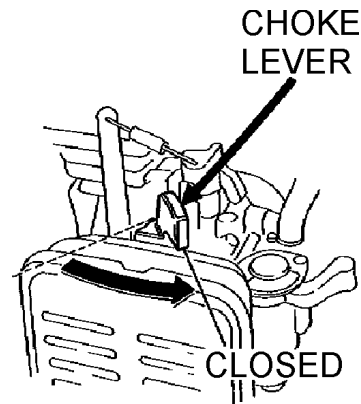

Figure 23. Engine Choke Lever (Closed)
4. Place the ***choke lever*** (Figure 23) in the "CLOSED" position if starting a ***warm engine*** or the ***temperature is warm***.
7. If the engine has started, slowly return the choke lever (Figure 23) to the **CLOSED** position. If the engine has not started repeat steps 1 through 6.